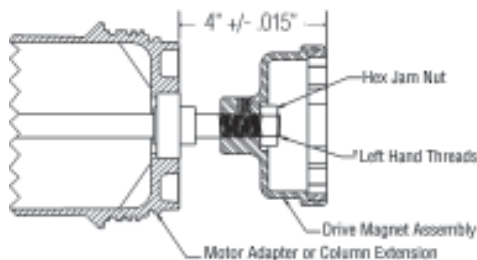

Figure 4
10. Install the left hand threaded drive magnet assembly (item 14) onto the drive shaft (item 13) until it is set at $4.00 \pm .015$ as measured from the top of the motor adapter/column extension to the top of the drive magnet assembly. See Figure 4. Apply a small amount of Loctite Thread Locker #262 to the inside threads on the 5/8-18 left hand jam nut (item 32) and the outside threads on the drive shaft. Thread the jam nut on until it makes contact with the drive. Hold the drive magnet assembly still and tighten it to 50 ft. pounds. Recheck the drive magnet setting after the jam nut is tight to ensure it did not move.